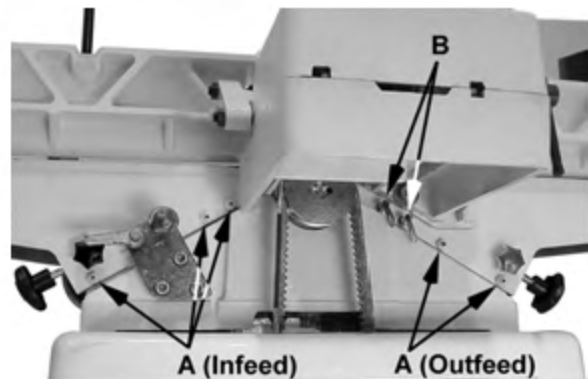
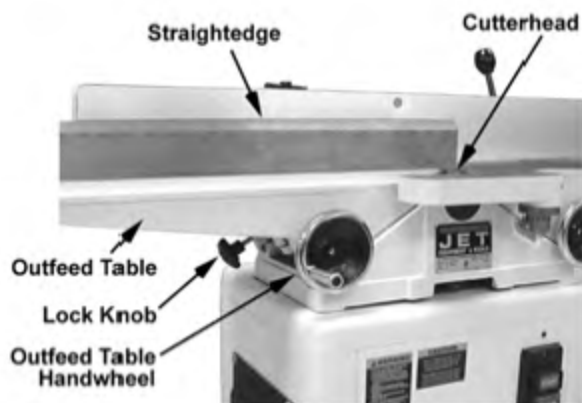

Figure 8-8
Figure 8-9
To adjust (refer to Figure 8-8):
3. Place a straightedge upon the outfeed table and extend it over the cutterhead (Figures 8-9 and 8-10).
5. Loosen both gib lock screws (B, Fig. 8-8) and the lock knob (Figure 8-9).
7. Lock the outfeed table at that setting by tightening the lock knob (Figure 8-9) and gib lock screws (B, Fig. 8-8). The outfeed table adjustment is complete.